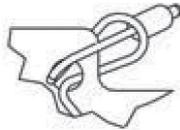
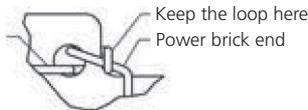

Figure 4-5. Insert the plug end of the wire through the loop.
Figure 4-6. Make sure the loop is on the side of the divider, not on top of it.
Step 3. Insert the loop created in Step 2 through the rear small hole at the top of the divider (Figure 4-4). Then, place the plug end of the wire through the loop (Figure 4-5). Make sure that the loop is on the side of the divider (not on top of it—see Figure 4-6). This will ensure that the divider will slide back into the cart. Then, tighten the loop down to the divider, tightening the knot.